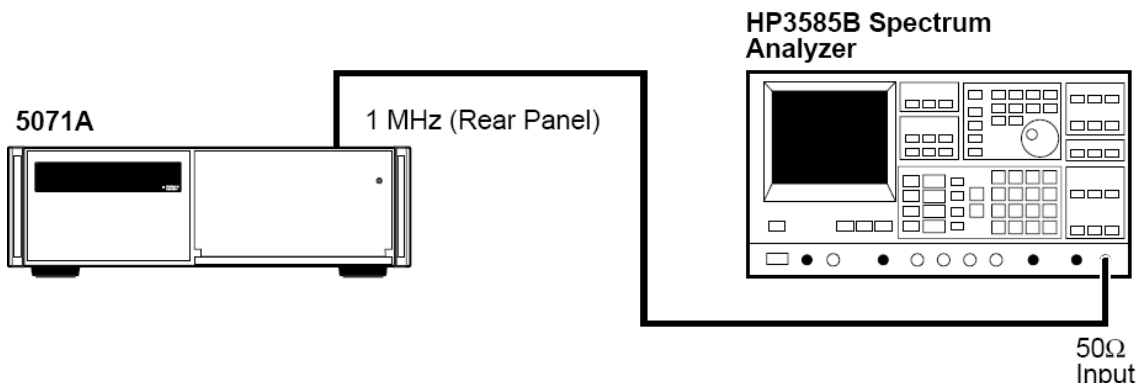

Figure 1-5. 1MHz Output Harmonic Distortion Test Setup
1. Connect the 5071A 1 MHz output to the 3585B Spectrum Analyzer as shown in Figure 1-5. Set the 3585B for 50 Ω input impedance.